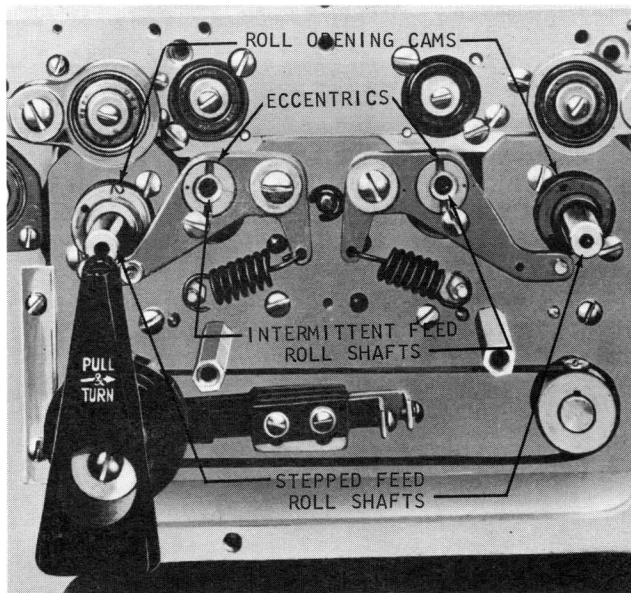

Figure 4-8. Roll Opening Device
5. Adjust eccentrics\* at each end of first intermittent feed roll shaft so that each card experiences light drag. Keep high side of eccentrics (indicated by the punch marks on the eccentrics) facing punch marks on intermittent feed roll opening arms (Figure 4-8).
5. Adjust the eccentrics\* at each end of the second intermittent feed roll shaft so that each card experiences light drag. Keep high side of eccentrics (indicated by the punch marks on the eccentrics) facing punch marks on intermittent feed roll opening arms (Figure 4-8).
##### Principles of Operation (Figure 4-8)